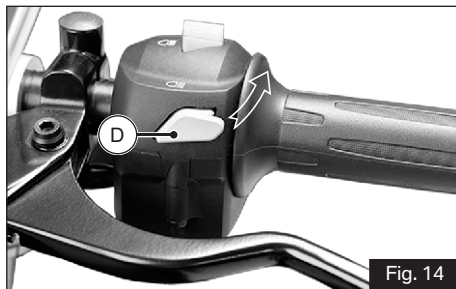

Fig. 14
D) Pass-by switch (ref. Fig. 14)